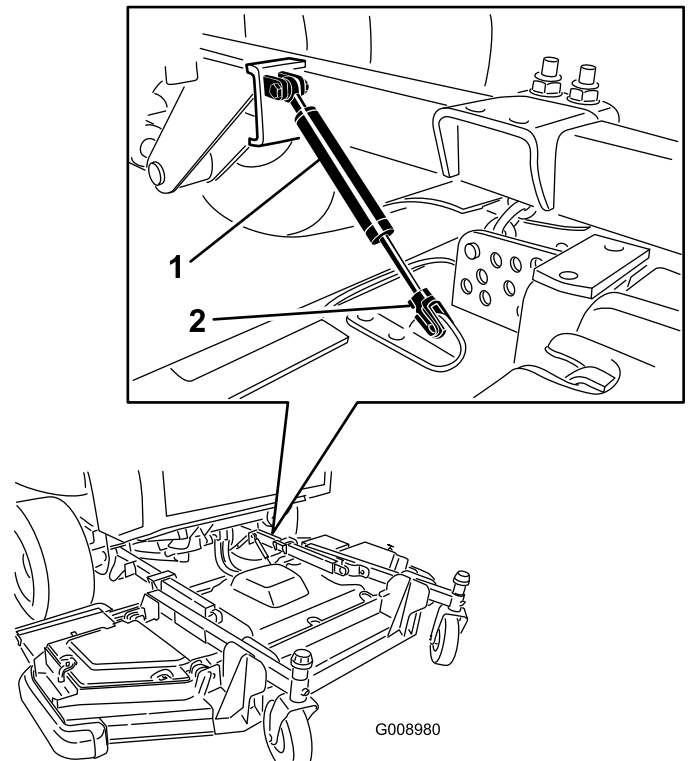

Figure 90
3. Remove the retainer clip and disconnect the damper assembly from the mower deck (Figure 90).